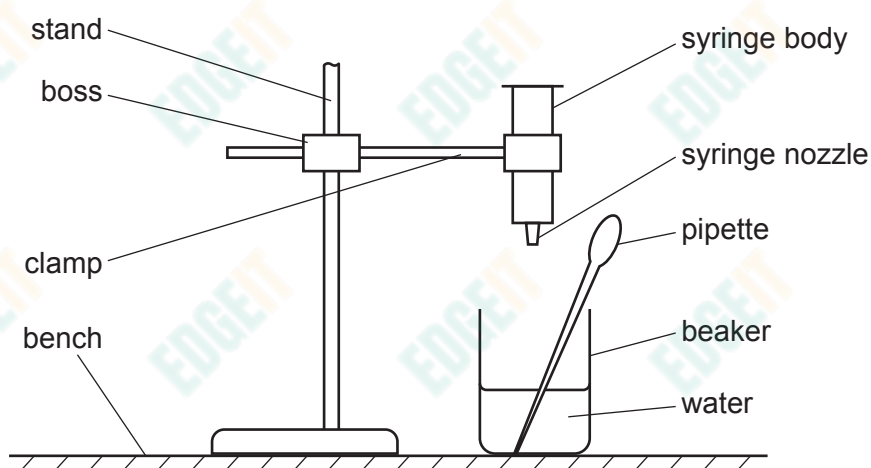

Fig. 2.3
- (c) • Use the stand, boss and clamp to position the syringe body above the beaker of water, as shown in Fig. 2.3.